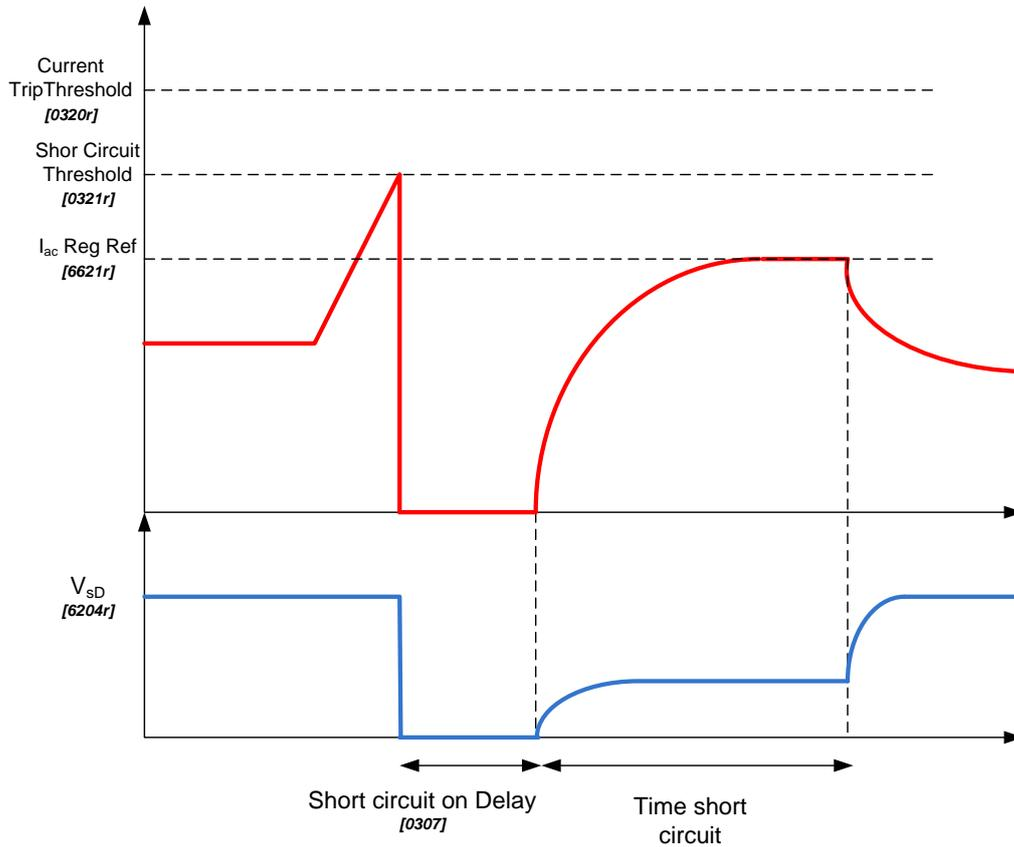

Fig. 3-109: Vac generator: short circuit protection CURRENT LIMIT mode
- Current limit: when the instantaneous value of the current (I_{inv}) is higher than *short circuit threshold* [0306] the pulses are switched off and when the pulses are switched on again (after a delay time defined in parameter *short circuit on delay* [0307]) the current regulator controls the current value to the lac Reg Ref setpoint. The behavior is showed in Fig. 3-109.